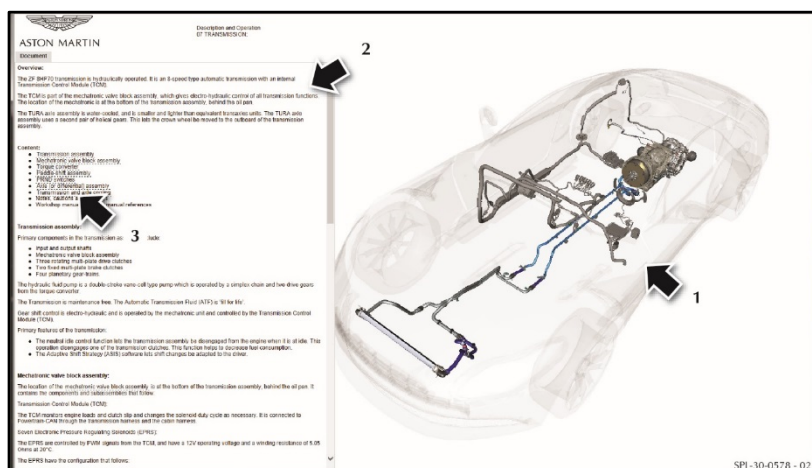

Figure 3
We have now created a separate Description and Operation manual that will give your technicians and other staff important information about the vehicle’s components and systems. The new Description and Operation manual is in a similar format to recent Parts Manuals and has 3D interactive content (refer to Figure 3). This exciting new function will let you view a ghosted image of the vehicle (1) that you can rotate and zoom. All of the components in a system are shown with descriptive text at the left (2). Links in the text (3) let you zoom in on a selected part.